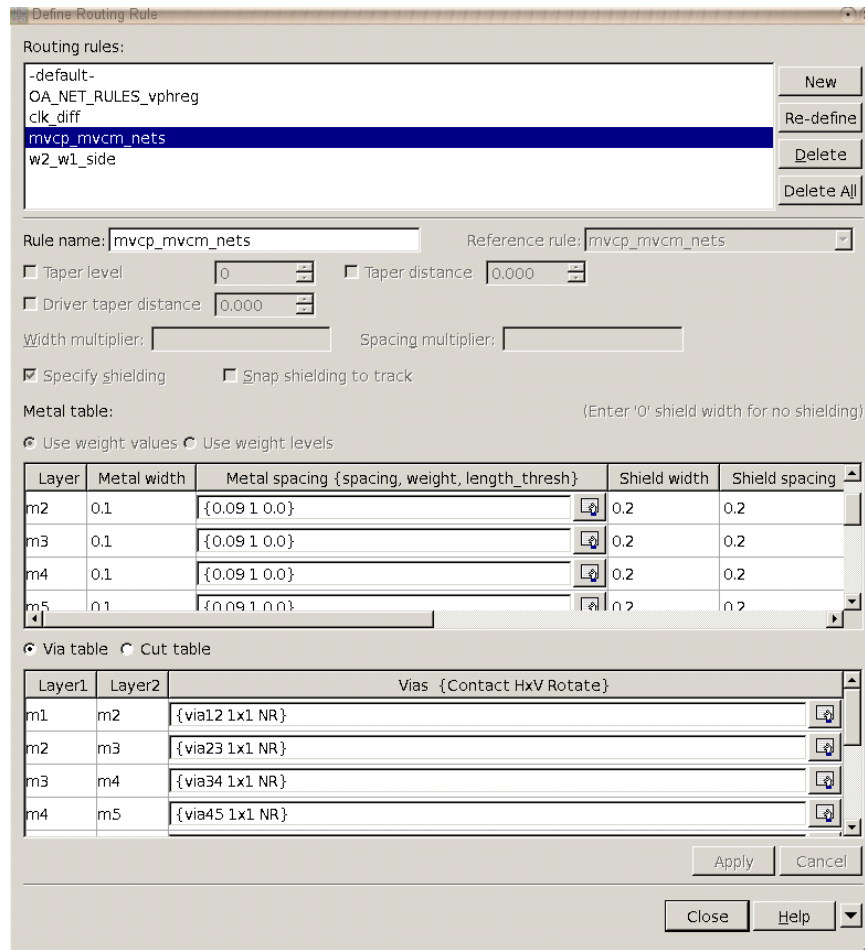

Figure 15 Define Routing Rule Window
- b. Observe that metal width, spacing are same as original route rule and shield width, spacing 0.2u defined for all layers (as defined in Task 5: Edit and Create NDRs and Shield Constraints). See Figure 15.